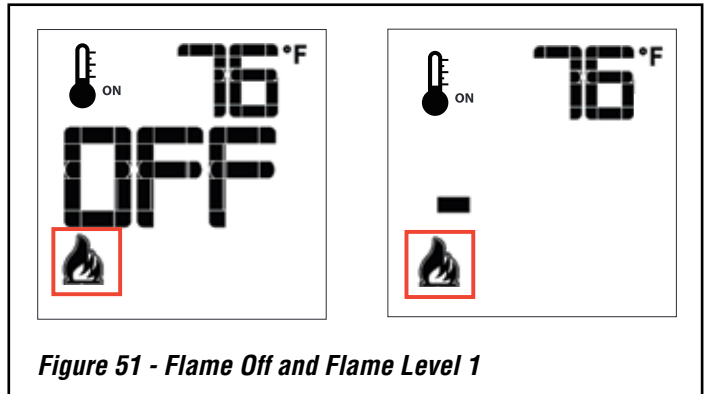

Figure 51 - Flame Off and Flame Level 1
When you turn on the fireplace it starts on high. The Proflame II has six (6) flame levels. Each time you press the Down Arrow Key once the flame height will reduce by one step (**Figure 51**).